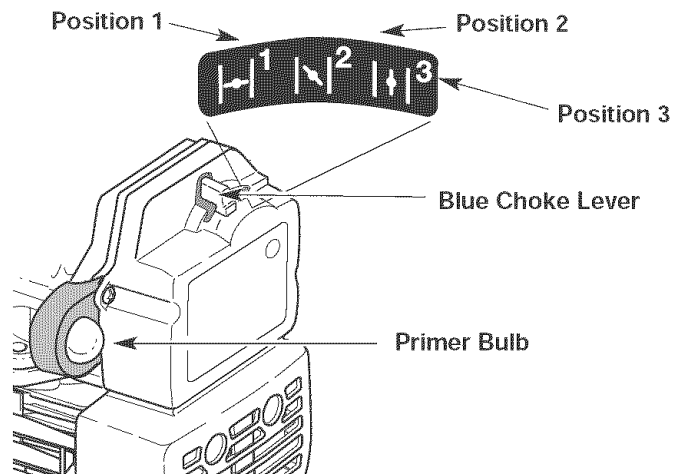

Fig. 7
3. Place the blue choke lever in Position 1 (Fig. 7).
4. Fully press and release the primer bulb 10 times, slowly. Some amount of **fuel should be visible in the primer bulb** and fuel lines (Fig. 7). If you can't see fuel in the bulb, press and release the bulb as many times as it takes before you can see fuel in it.